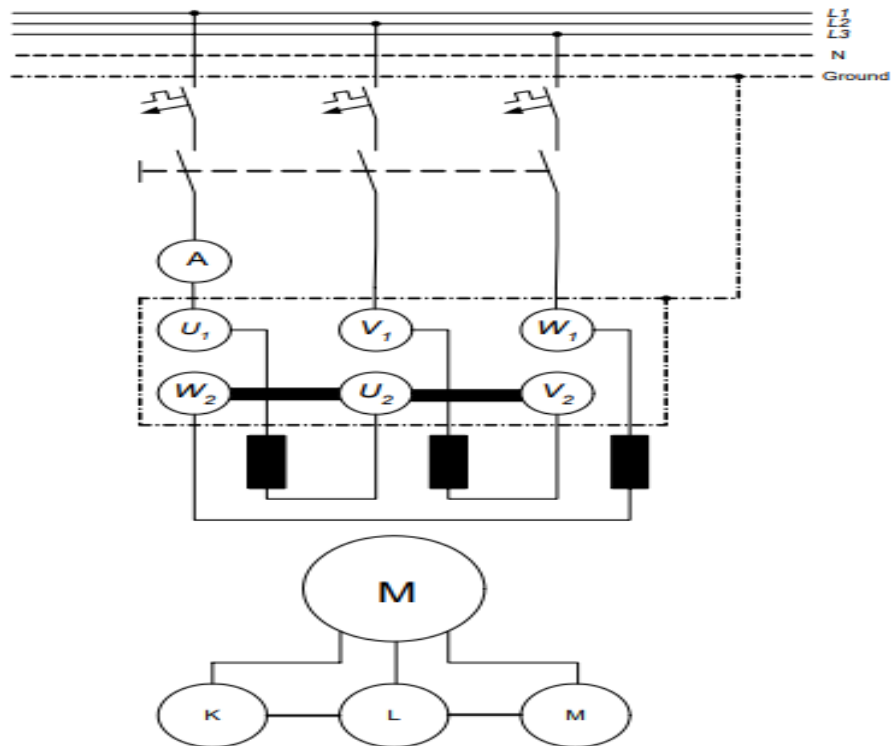

FIG 2
1. For direct-on -line starting , connect the cage motor as shown in FIG.2